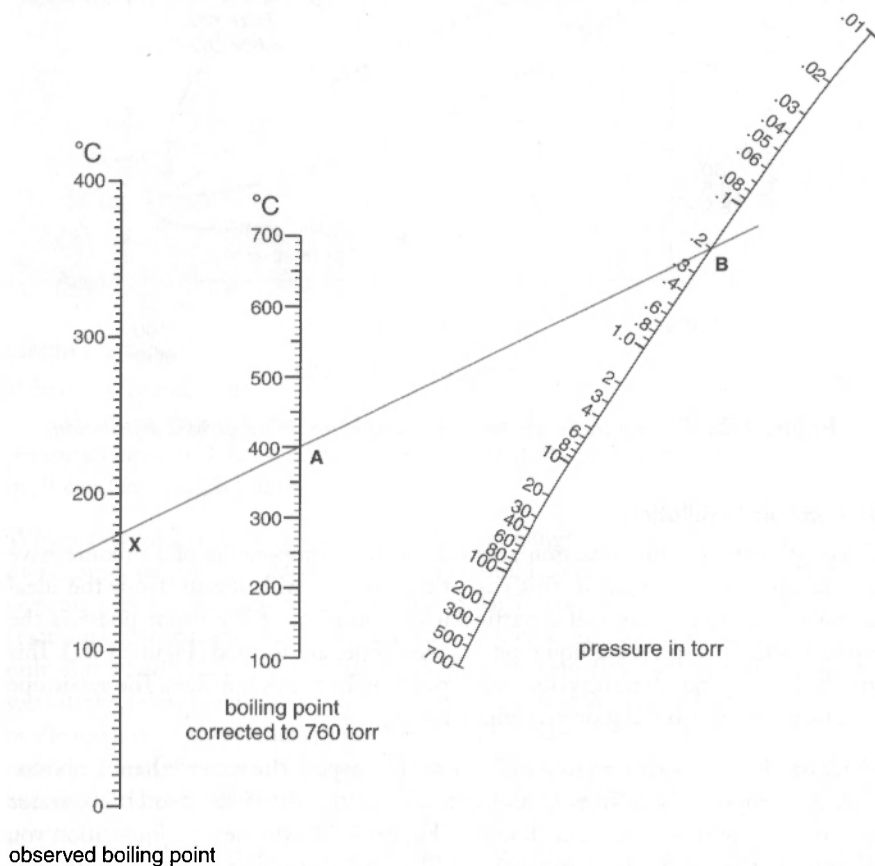

Figure 3-20. *Nomograph.*
For a more accurate estimate, a nomograph can be used (Figure 3-20). Let's assume a compound boils at 400 °C at atmospheric pressure (point A). To find the estimated boiling point at 0.2 mmHg (point B), take a ruler and align it so that it passes through both the 400 °C point on the 760 mmHg graph (A) and the
0.2 mmHg on the pressure graph (B). It will intersect the “observed b.p.” line at 175 °C (point X), meaning that at 0.2 mmHg its estimated boiling point will be 175 °C.